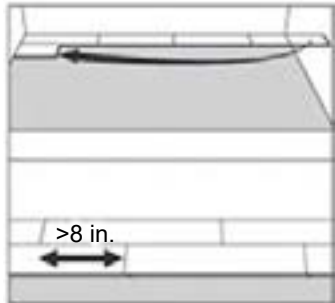

Figure 2
6. Begin the second row with the cut piece from the first row. If the cut piece is shorter than 8", do not use it. Instead, begin with a new board that is at least 8" in length and allow 8" between the end joints on the adjacent planks. *Figure 2.*